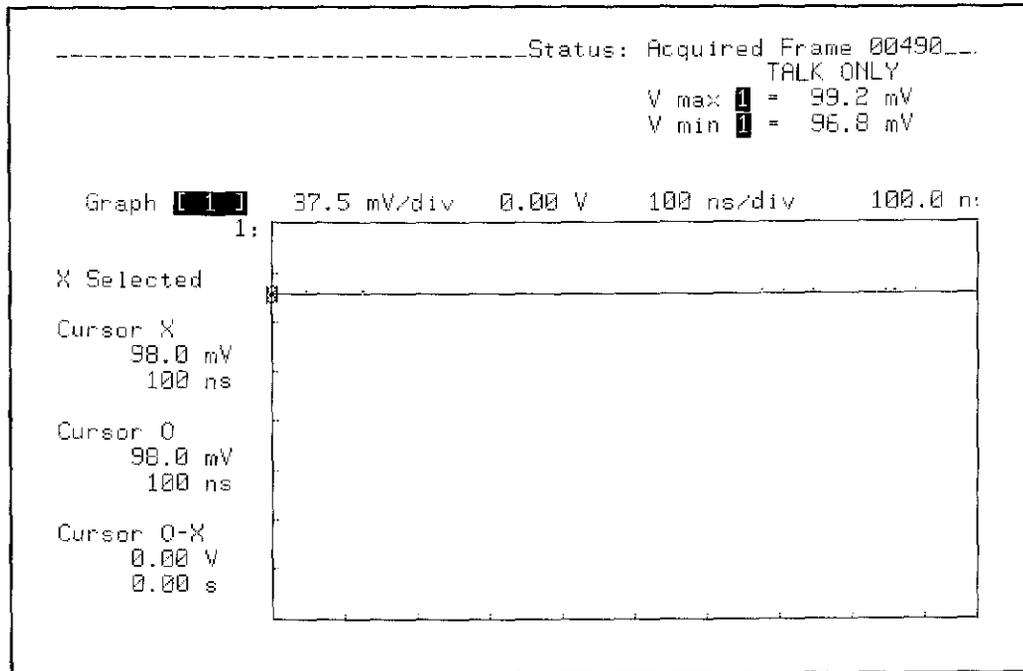

Figure 3-5. DISPLAY Waveform
5. The display should appear similar to figure 3-5.